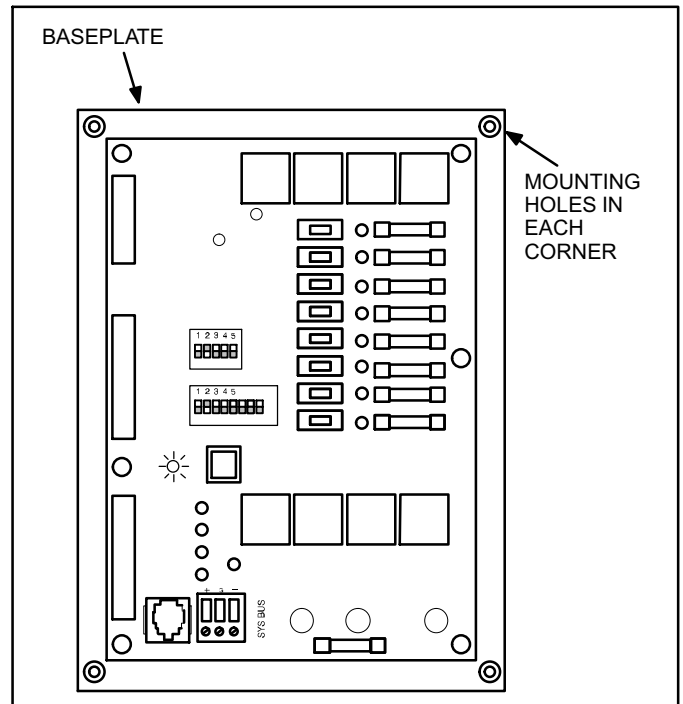

Figure 1. NTC1 Network Thermostat Controller (A113) Mounting Hole Locations
2. Use NTC1 baseplate as template to mark location of four mounting holes at desired installation site (See figure 1). The NTC1-1 may be installed in any direction.